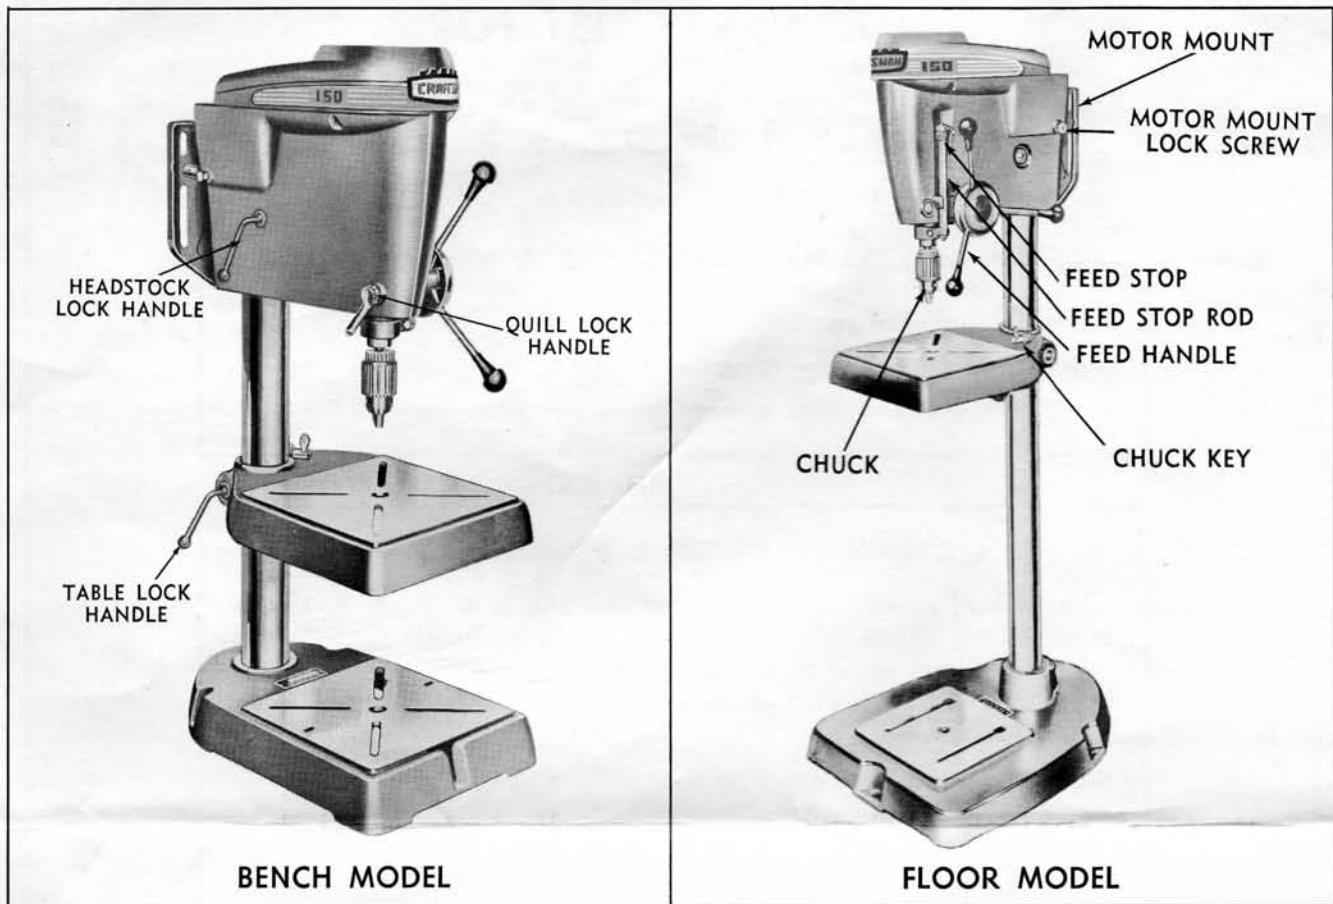

FIGURE 1
Place **feed handles** on tool as shown in Fig. 1.
Place the chuck key in the hole provided at side of table support, see Fig. 1.
To install motor loosen the **motor mount lock screws**, Fig. 1, until the **motor mount** may be removed. Fasten the motor to the motor mount with the bolts, nuts, and washers provided so that when motor mount is reinstalled on the tool, the larger portion of the mount will be down. For convenience, if your motor has a switch, and rotation will be correct, place motor on motor mount so that the switch is on the left side. **Direction of rotation of the spindle must be clockwise when viewed from pulley end of spindle.**
To change the locked position of table lock handle or headstock lock handle (Fig. 1), remove handle and rotate table lock, item 66, or headstock lock, Item 51, 180°. Re-insert and tighten lock handle.
The **Quill Lock Handle**, (Fig. 1) for greatest ease of operation should point **down** when **locked**. To change the position of the handle, loosen the set screw, remove handle from hex head screw and rotate to correct position. Replace handle and tighten set screw.